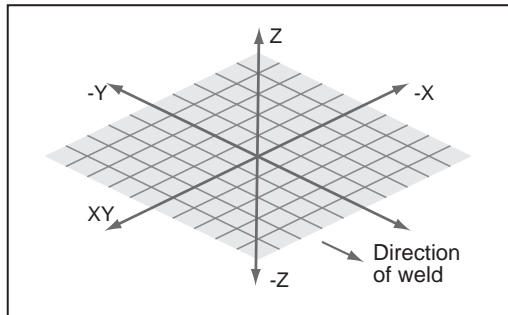

FIG. 12
8.6 DIRECTION OF WELD – FIG. 12